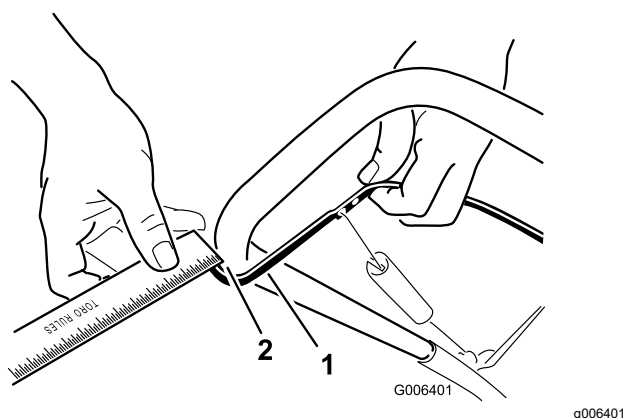

Figure 21
Move the control bar back toward the handle to remove the slack in the control cable (Figure 21).
Note: Ensure that a 2 to 3 mm (1/16 to 1/8 inch) gap exists between the control bar and the handle (Figure 21).
2. Move the Z-fitting to a higher or lower hole on the adjuster link as needed to obtain the 2 to 3 mm (1/16 to 1/8 inch) gap between the control bar and the handle (Figure 21).